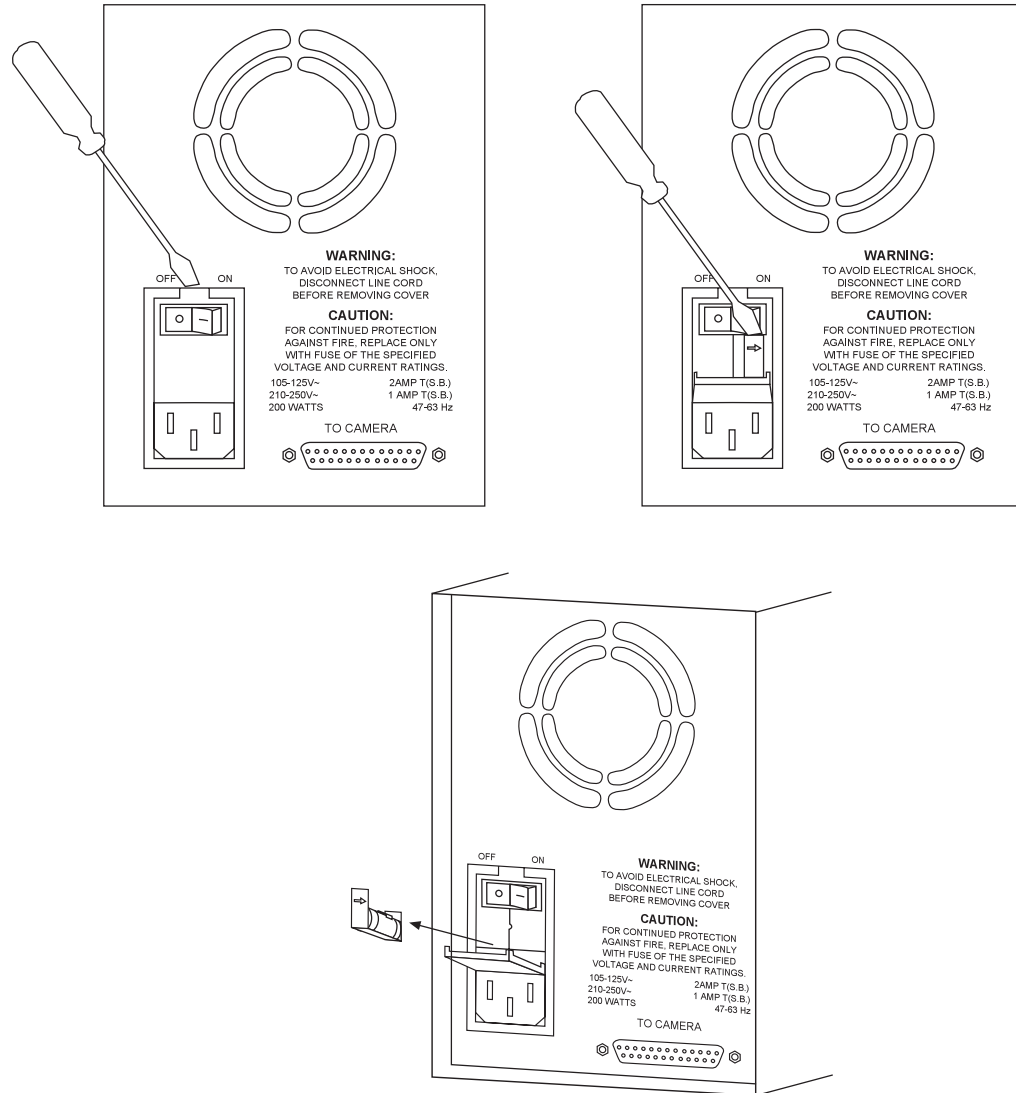

Figure 6. Power Input Assembly (Fuse Access)
2. Insert a small screwdriver into the recess at the top of the Power Input assembly as shown in Figure 6 and pry open the cover.